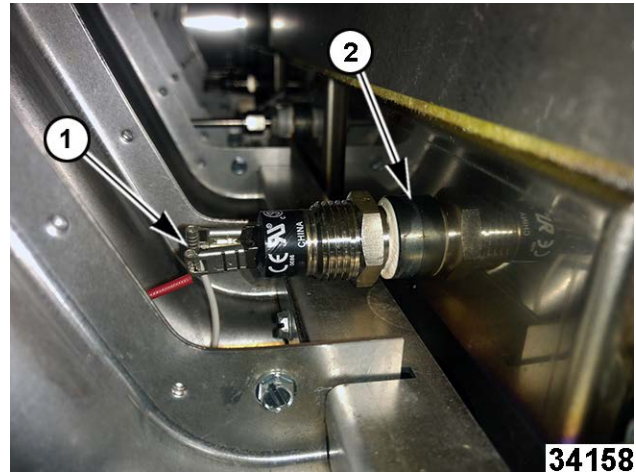

Fig. 29
3. Note and disconnect high limit terminal wires (1, Fig. 29).
4. Remove/unthread high limit (2, Fig. 29) from fry tank.